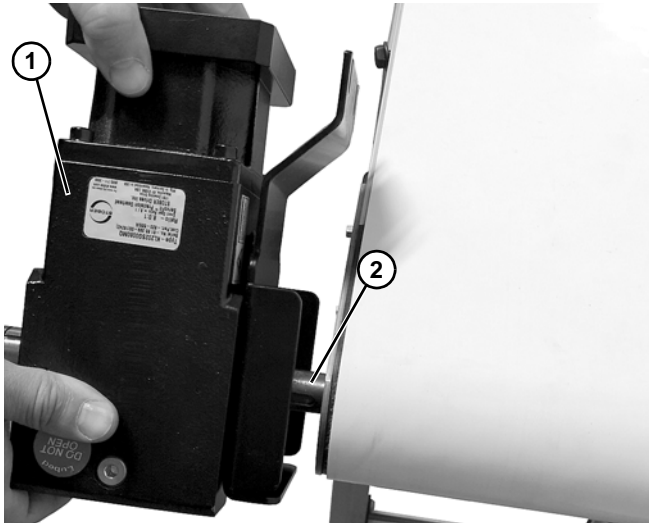

Figure 16
5. Install servo drive assembly (Figure 16, item 1) onto conveyor shaft (Figure 16, item 2).